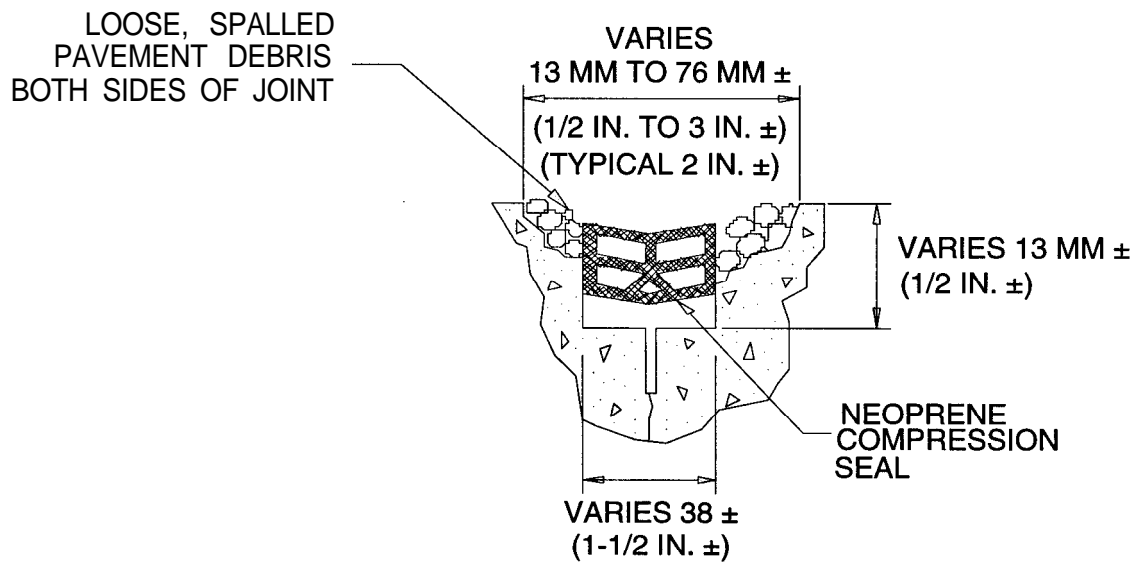

Figure 1a. Existing Spalled NCS Joint
**3.1.1. Compression Seal Removed (Figures 1a and 1b).**